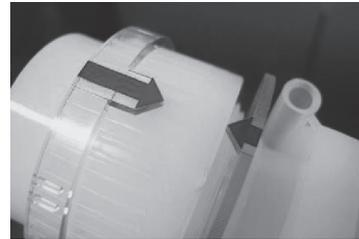

Figure 6
2. Position large clip on the nut while aligning the red arrow with the red arrow on the body clip (Figure 6).